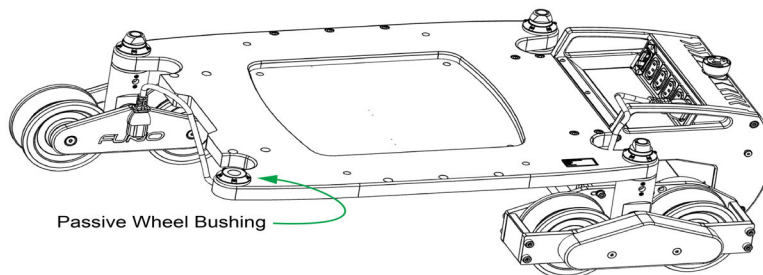

Figure 11 - Replacing the Passive Wheel Bushings
- Dispose of or store the old passive wheel post nut shown in **Figure 11**.